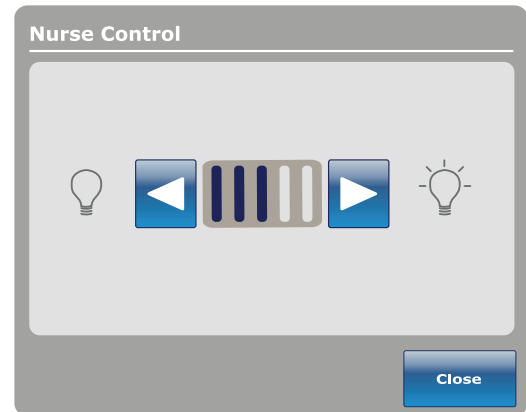

Figure 1-90: Nurse control LED intensity
2. Tap the left or right arrow (Figure 1-90 on page 1-81).
3. To save the LED intensity setting, tap **Close** (Figure 1-90 on page 1-81).